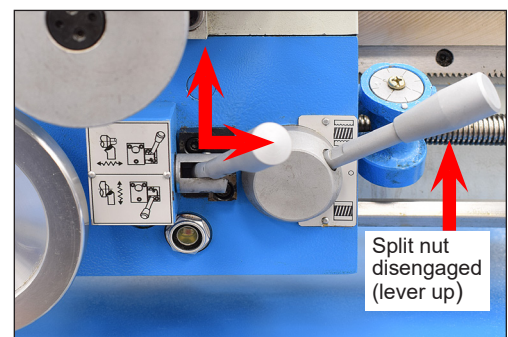

Figure 1-6 Saddle feed
3. With the spindle stationary, and the split nut disengaged, set the power feed lever to "saddle feed", Figure 1-6. Run the lathe to observe saddle motion. Stop the motor.